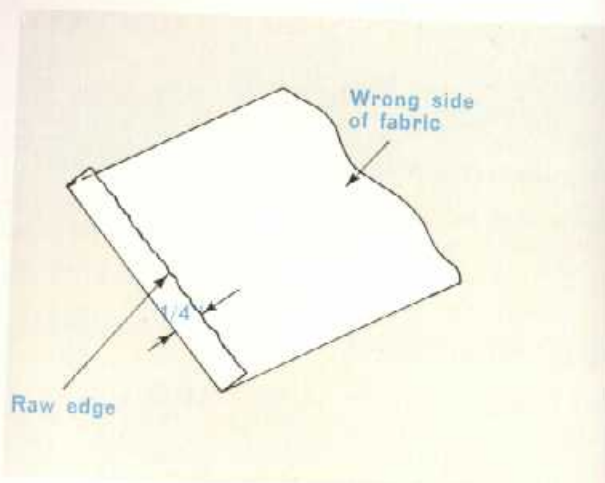

Fig. 75
Illustrations Figs. 75, 76, 77, 78, and 79 show how to fold material properly for blindstitching.
- 1) When using lighter fabrics (linen, cotton, percales, etc.), fold over raw edge of fabric $\frac{1}{4}$ " toward wrong side of fabric, as indicated in Fig. 75. When using heavier fabrics (woolens, heavy rayons, etc.), seam binding (about $\frac{3}{8}$ " wide) should be